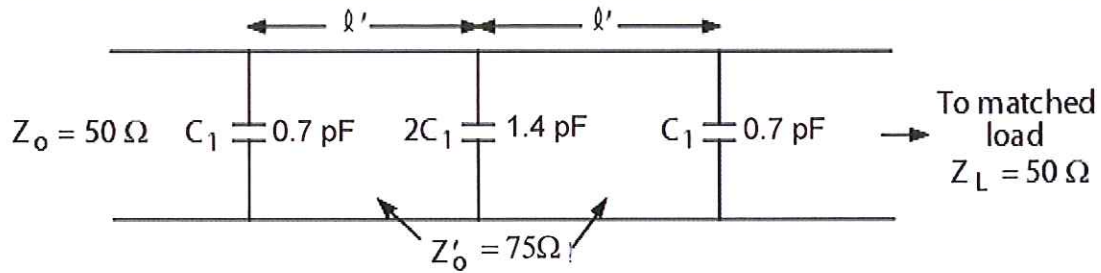

Fig. 2. A two-section filter.
3. Repeat Step 2 using three capacitances instead of two i.e. a two-section factor filter instead of a single-section filter. The circuit layout for this two-section filter is given in Fig. 2. Determine the band for which $SWR \leq 1.5$ ($S_{11} \leq 0.2$ or -14 dB).